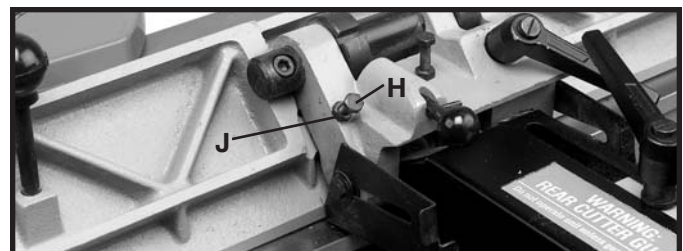

Fig. 54
10. If an adjustment is necessary loosen locknut (J) Fig. 54, and turn adjusting screw (H) until fence is tilted 45 degrees in. Then tighten lock nut (J).